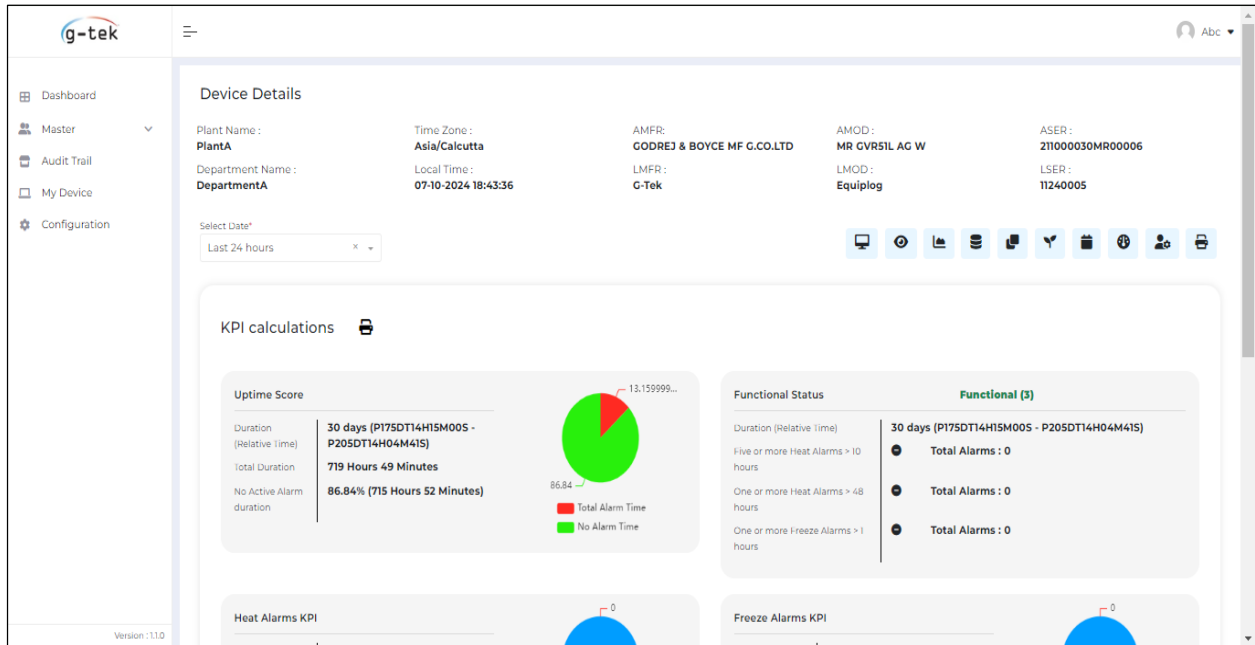

Figure 49 Gtek Cloud KPI Calculation view Dashboard for selected data logger
- Click on  icon to view KPI dashboard for the selected device in the cloud application as shown in figure 49.